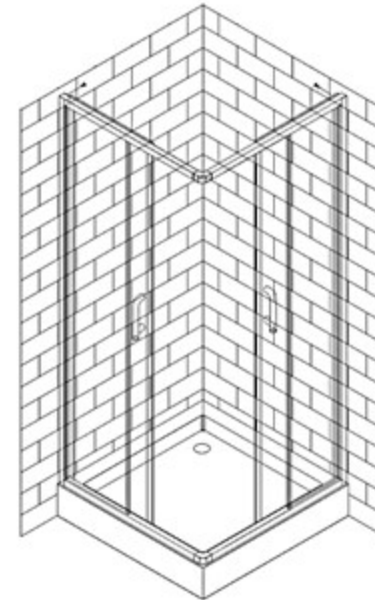

Figure 4
6. Drill a hole sized $\phi 3.5\text{mm}$ on two sides of left profile, so does the right profile. Then screw the profile with M4x10 screw. (See figure 4)